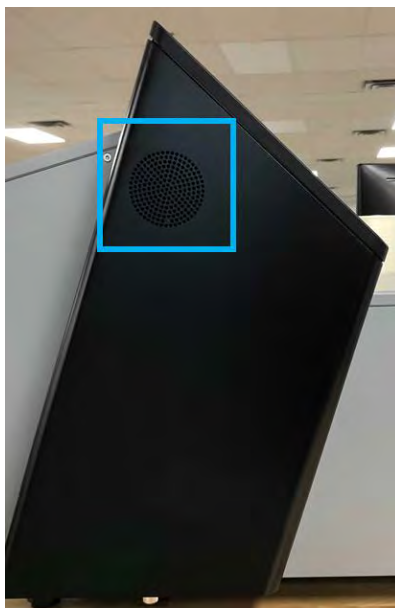

Figure 3.4: Location of the speakers on the Alto instrument.
1. The Alto instrument hardware has two speakers, which are located on either side of the Alto instrument (Figure 3.4).